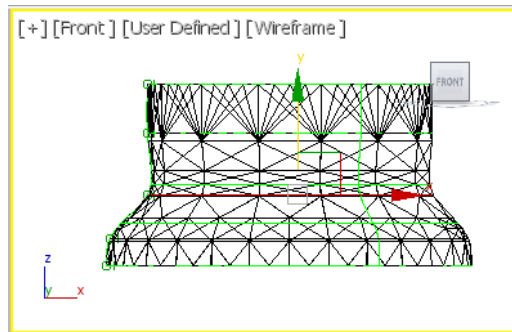

Figure 15-90 The NURBS curves modified in the Front viewport
7. Select the **Curve** sub-object level. In the Front viewport, modify the NURBS curves using the **Select and Move** and **Select and Uniform Scale** tools, as shown in Figure 15-90.